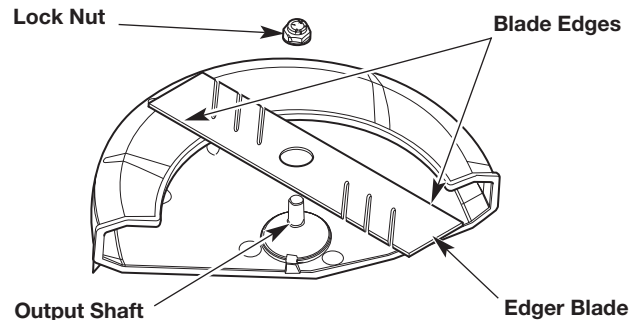

Fig. 14
4. Remove the Allen wrench, wrench, lock nut and edger blade (Fig. 14). Keep the lock nut for installing the new edger blade.
1. Install the new edger blade and lock nut onto the output shaft (Fig. 14). Make sure the blade edges are facing the correct direction (Fig. 14). The unit will not function properly if the edger blade is facing the wrong direction.